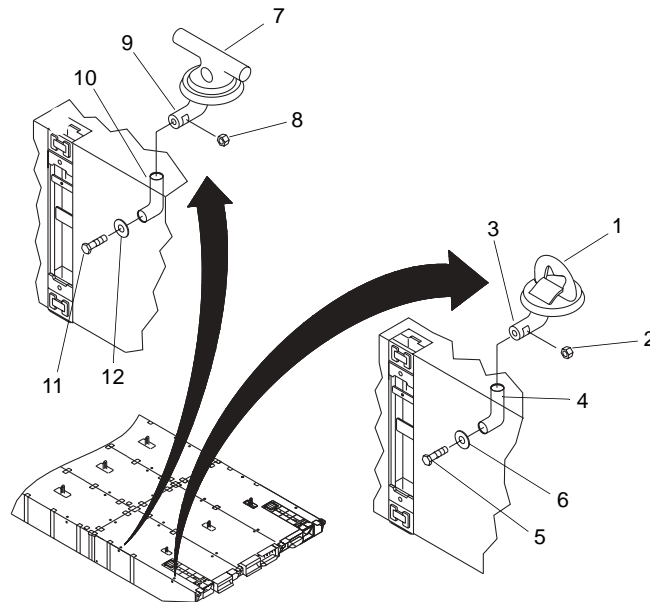

Figure 8. D-Ring and Deck Cleat Fitting Installation
3. Install D-ring fittings (figure 8, item 1) on modules.
- a. Place nut (figure 8, item 2) in slot in tailpiece (figure 8, item 3) of D-ring fitting (figure 8, item 1).
- b. Insert D-ring fitting (figure 8, item 1) into module turn tube (figure 8, item 4).
- c. Insert bolt (figure 8, item 5) through keeper plate (figure 8, item 6) and thread it into nut (figure 8, item 2) in tailpiece (figure 8, item 3). Tighten bolt (figure 8, item 5).
4. Install deck cleat fitting (figure 8, item 7) on modules.
- a. Place nut (figure 8, item 8) in slot in tailpiece (figure 8, item 9) of deck cleat fitting (figure 8, item 7).
- b. Insert deck cleat fitting (figure 8, item 7) into module turn tube (figure 8, item 10).
- c. Insert bolt (figure 8, item 11) through keeper plate (figure 8, item 12) and thread it into nut (figure 8, item 8) in tailpiece (figure 8, item 3). Tighten bolt (figure 8, item 11).